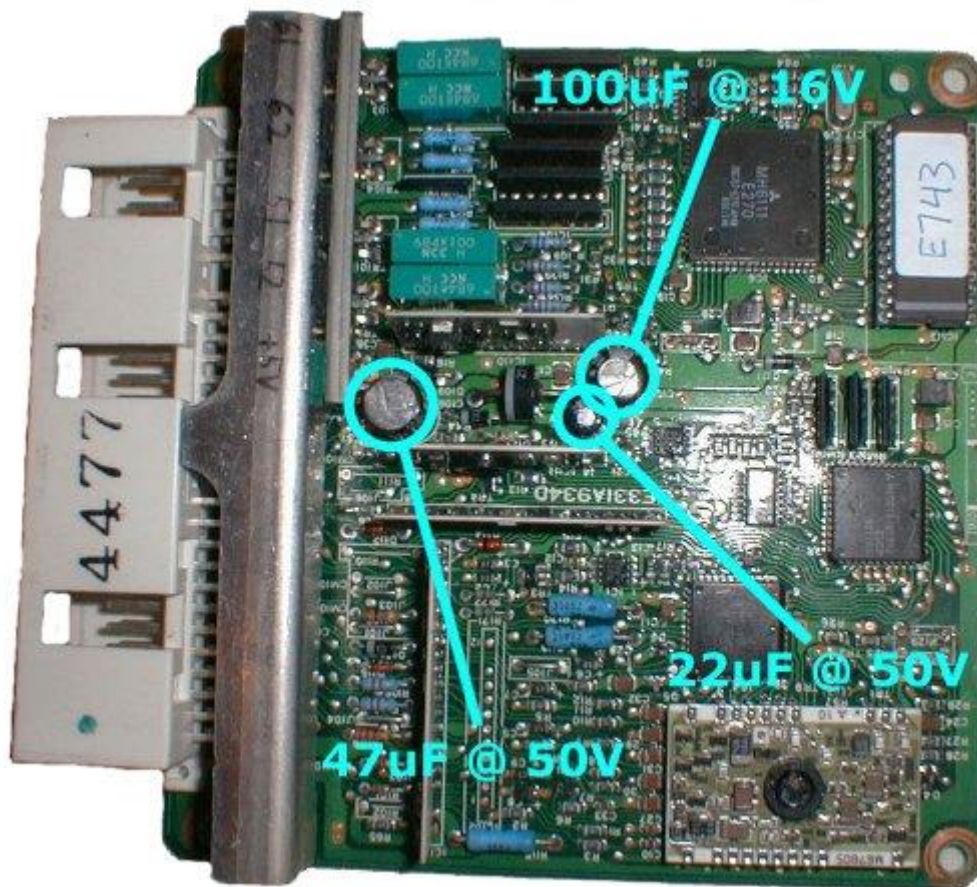

Figure 1
5. **Locate the Capacitors.** Figure 1 shows the positions of the capacitors and their values. You might want to inspect them for any sign of a leak or maybe a smoke trace if you've had a problem.